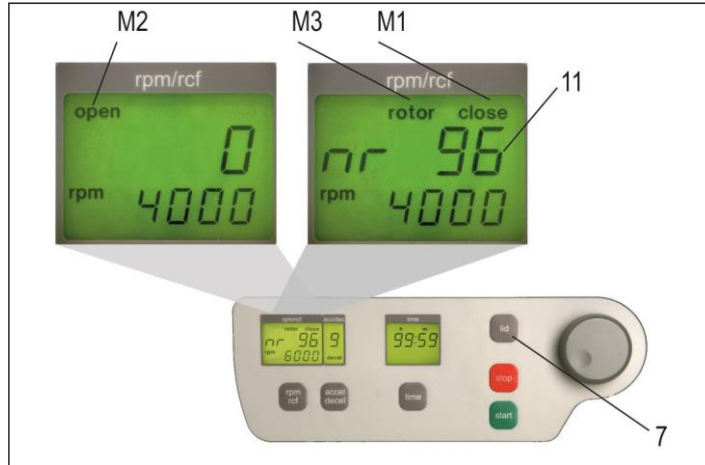

Figure 15
For all number marked text, please refer to Figure 15.
The lid must only be closed slightly. An electromagnetic lid lock closes the lid, the word "open" (M2) will no longer be displayed. As a sign that the centrifuge is ready for starting, appearing in the display, "rpm/rcf"(A-1), the word "close" (M1). Simultaneously, the word "rotor" (M3) appears, as well as the code number of the rotor, which is in the centrifuge, i. e. „nr 96“ (11) along with all rotor specific data, for example: max. speed, acceleration etc., are available, (see Figure 15).